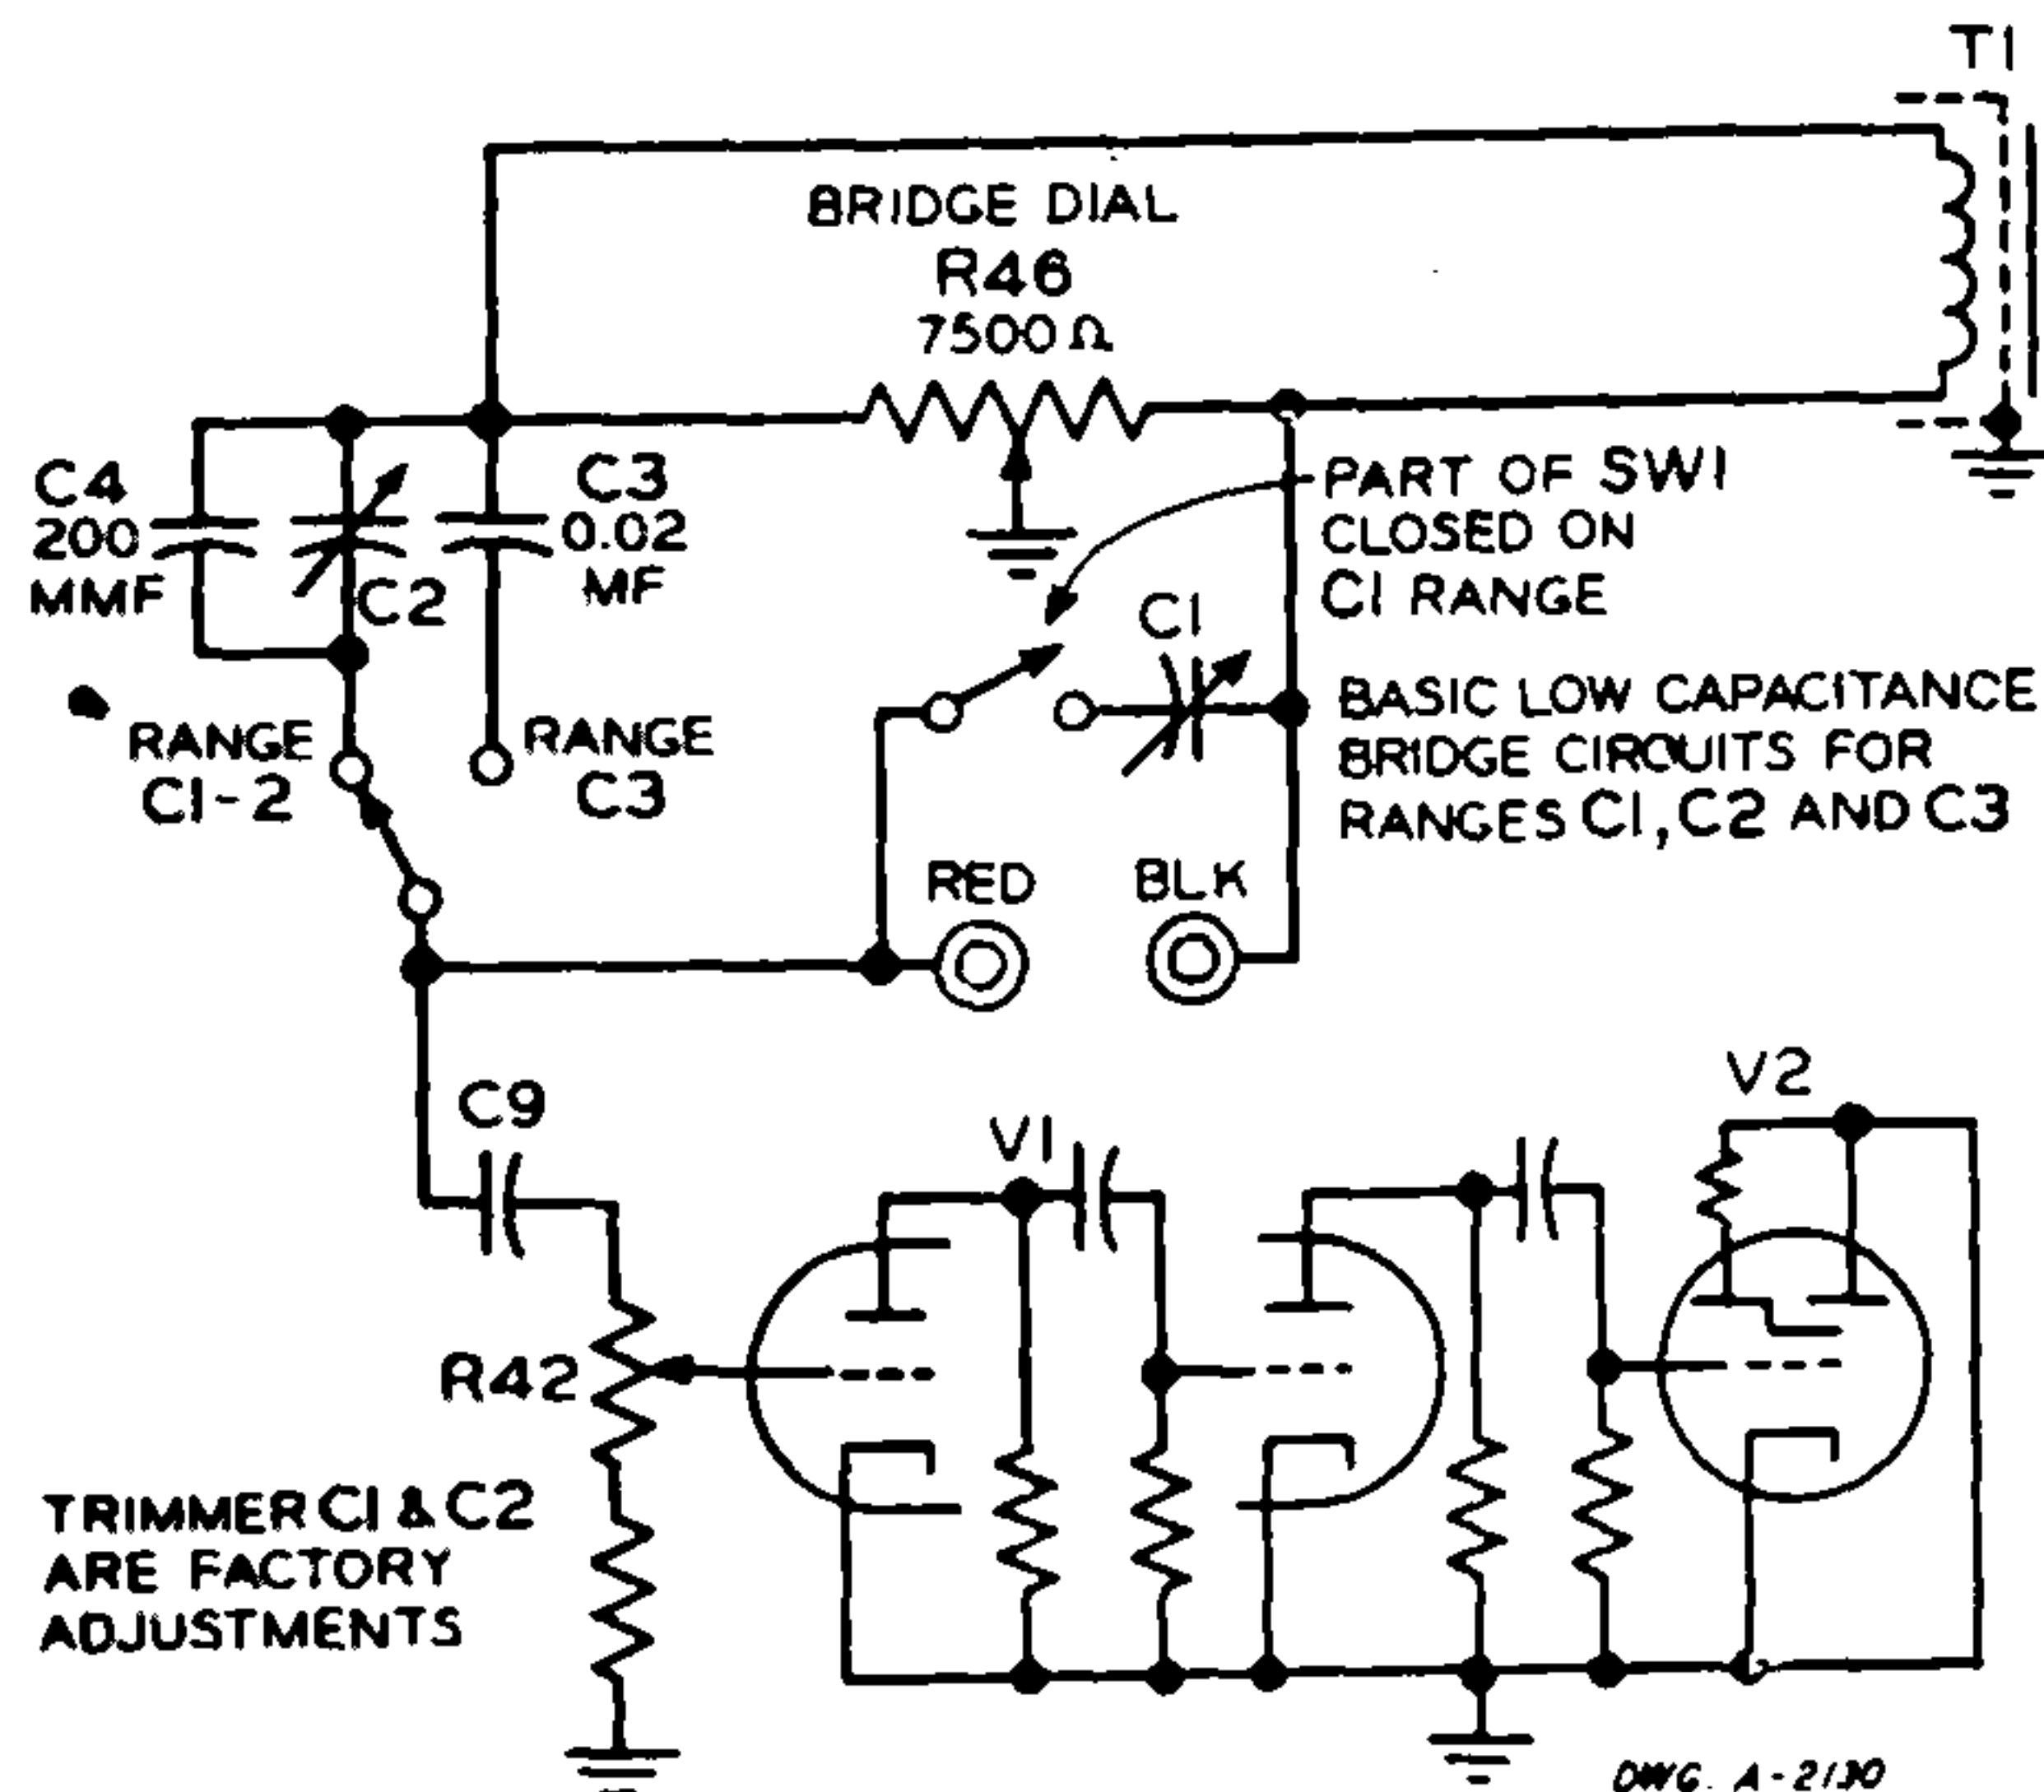
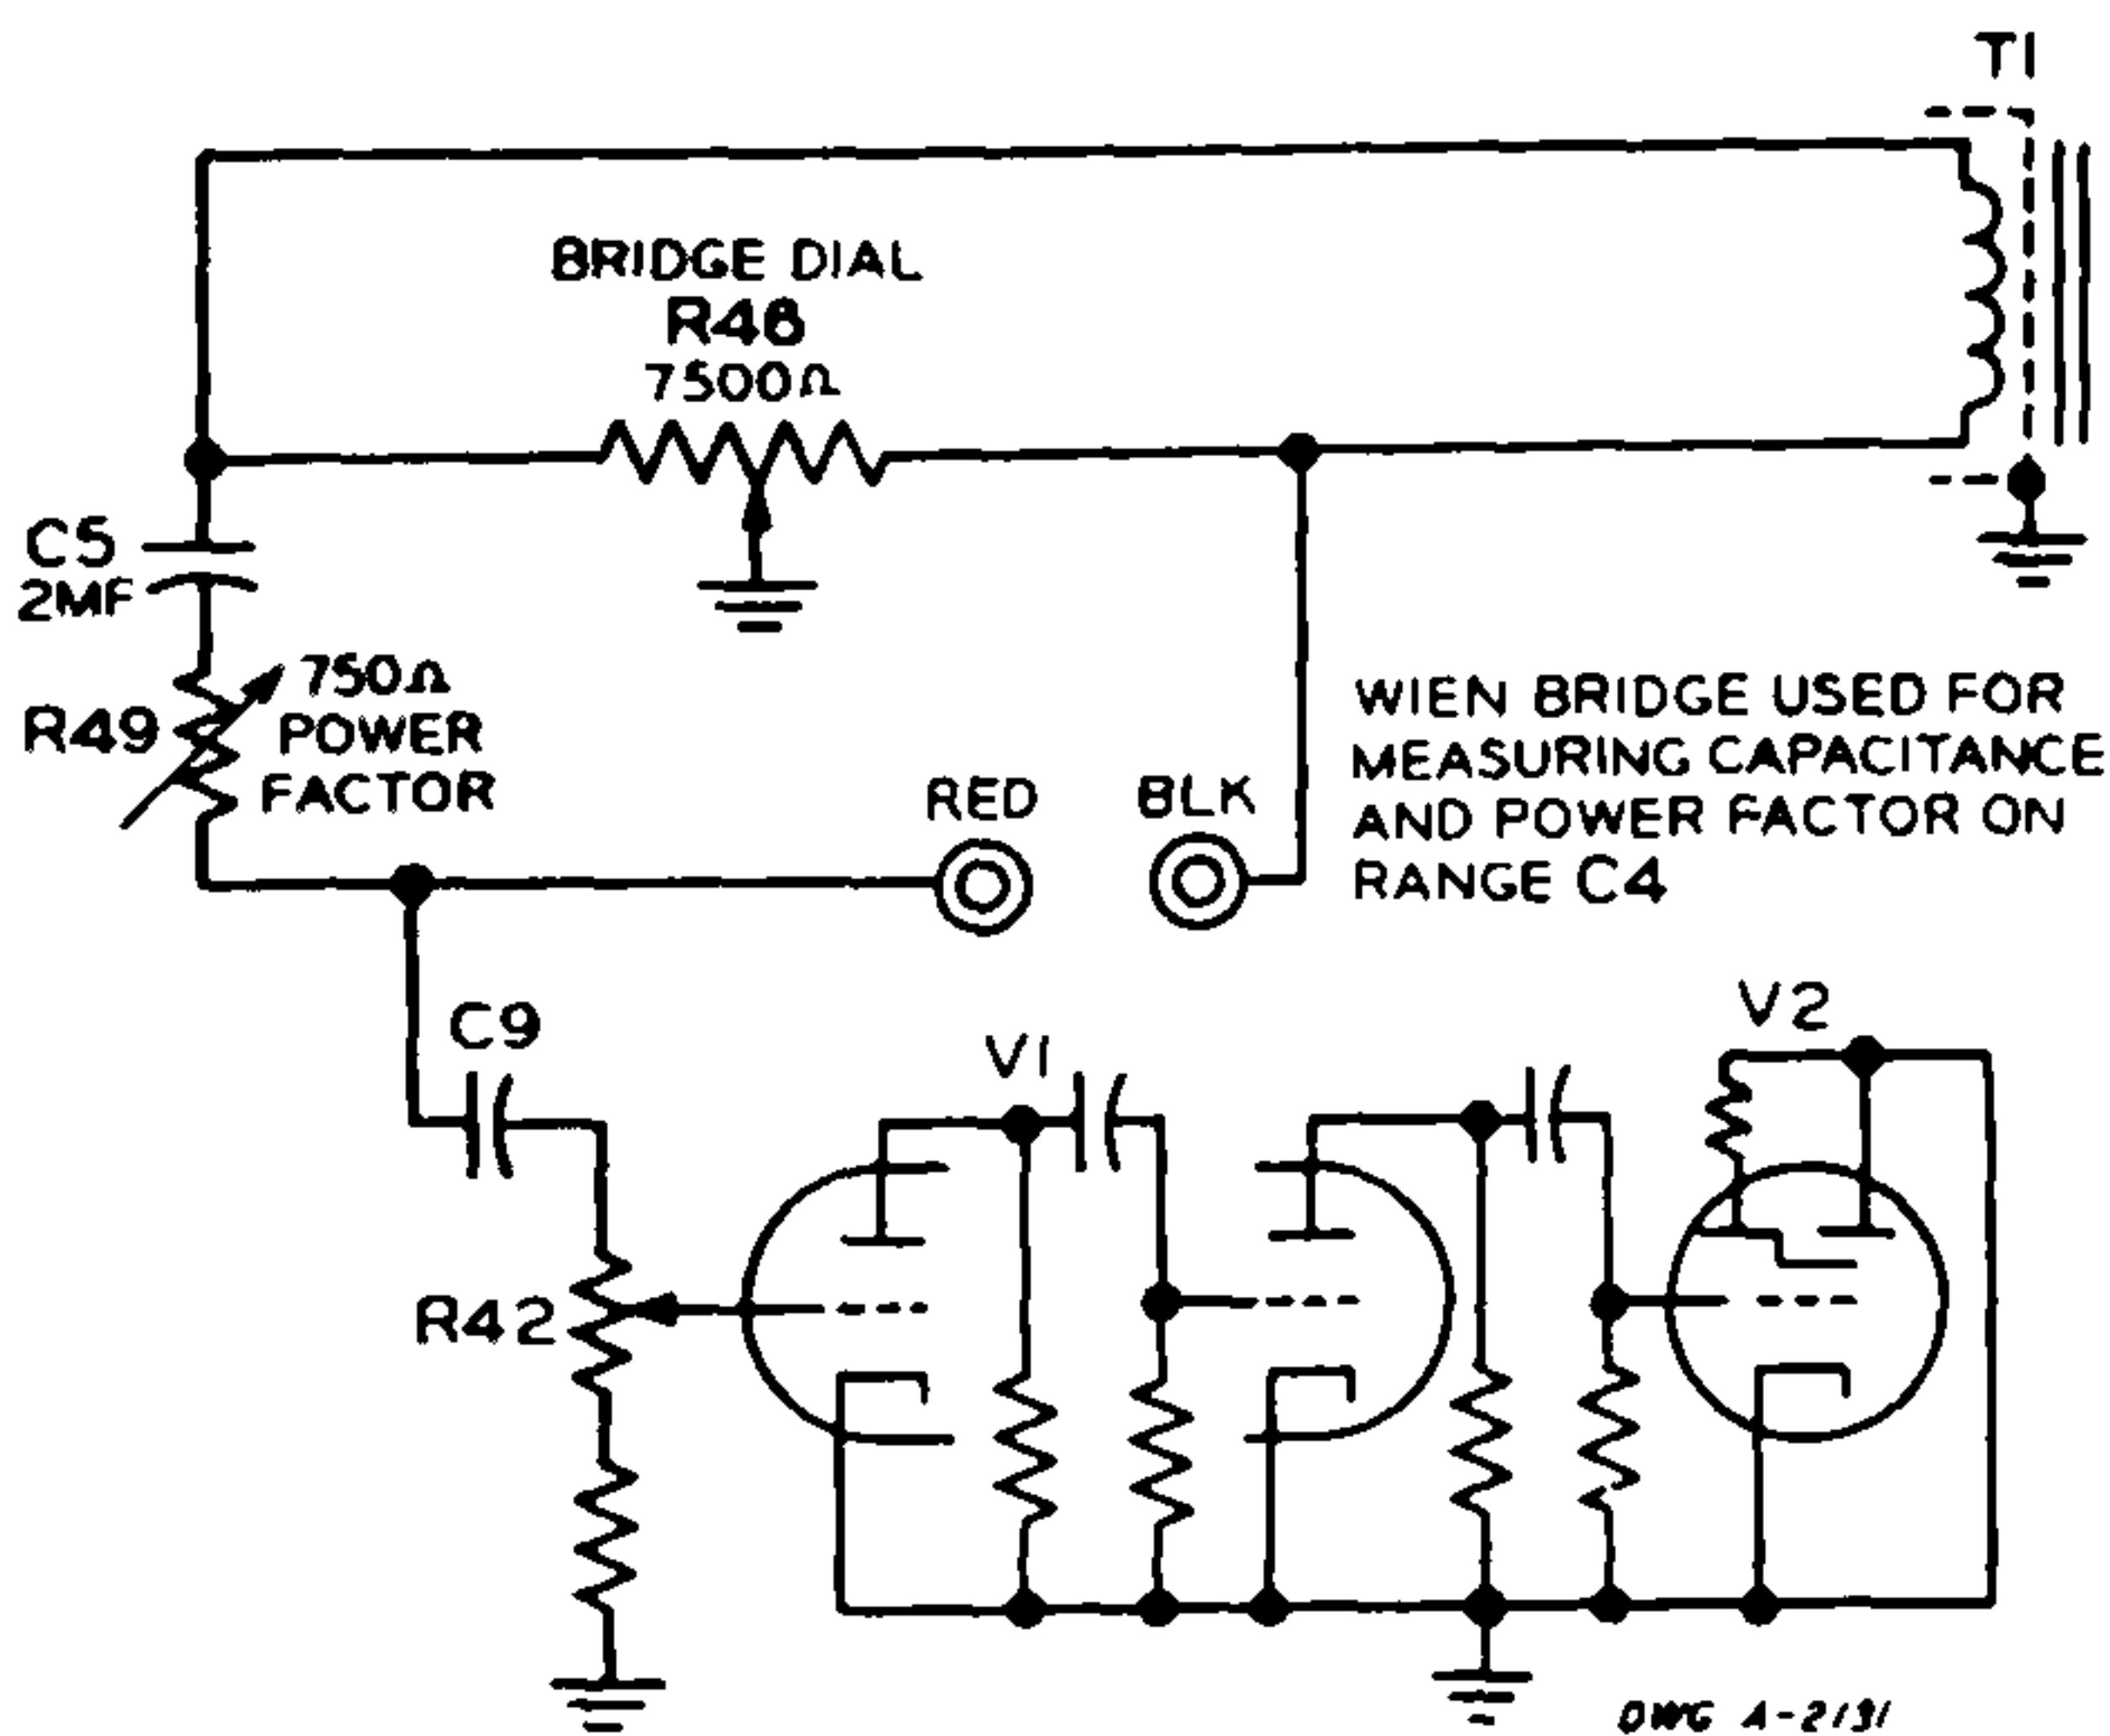
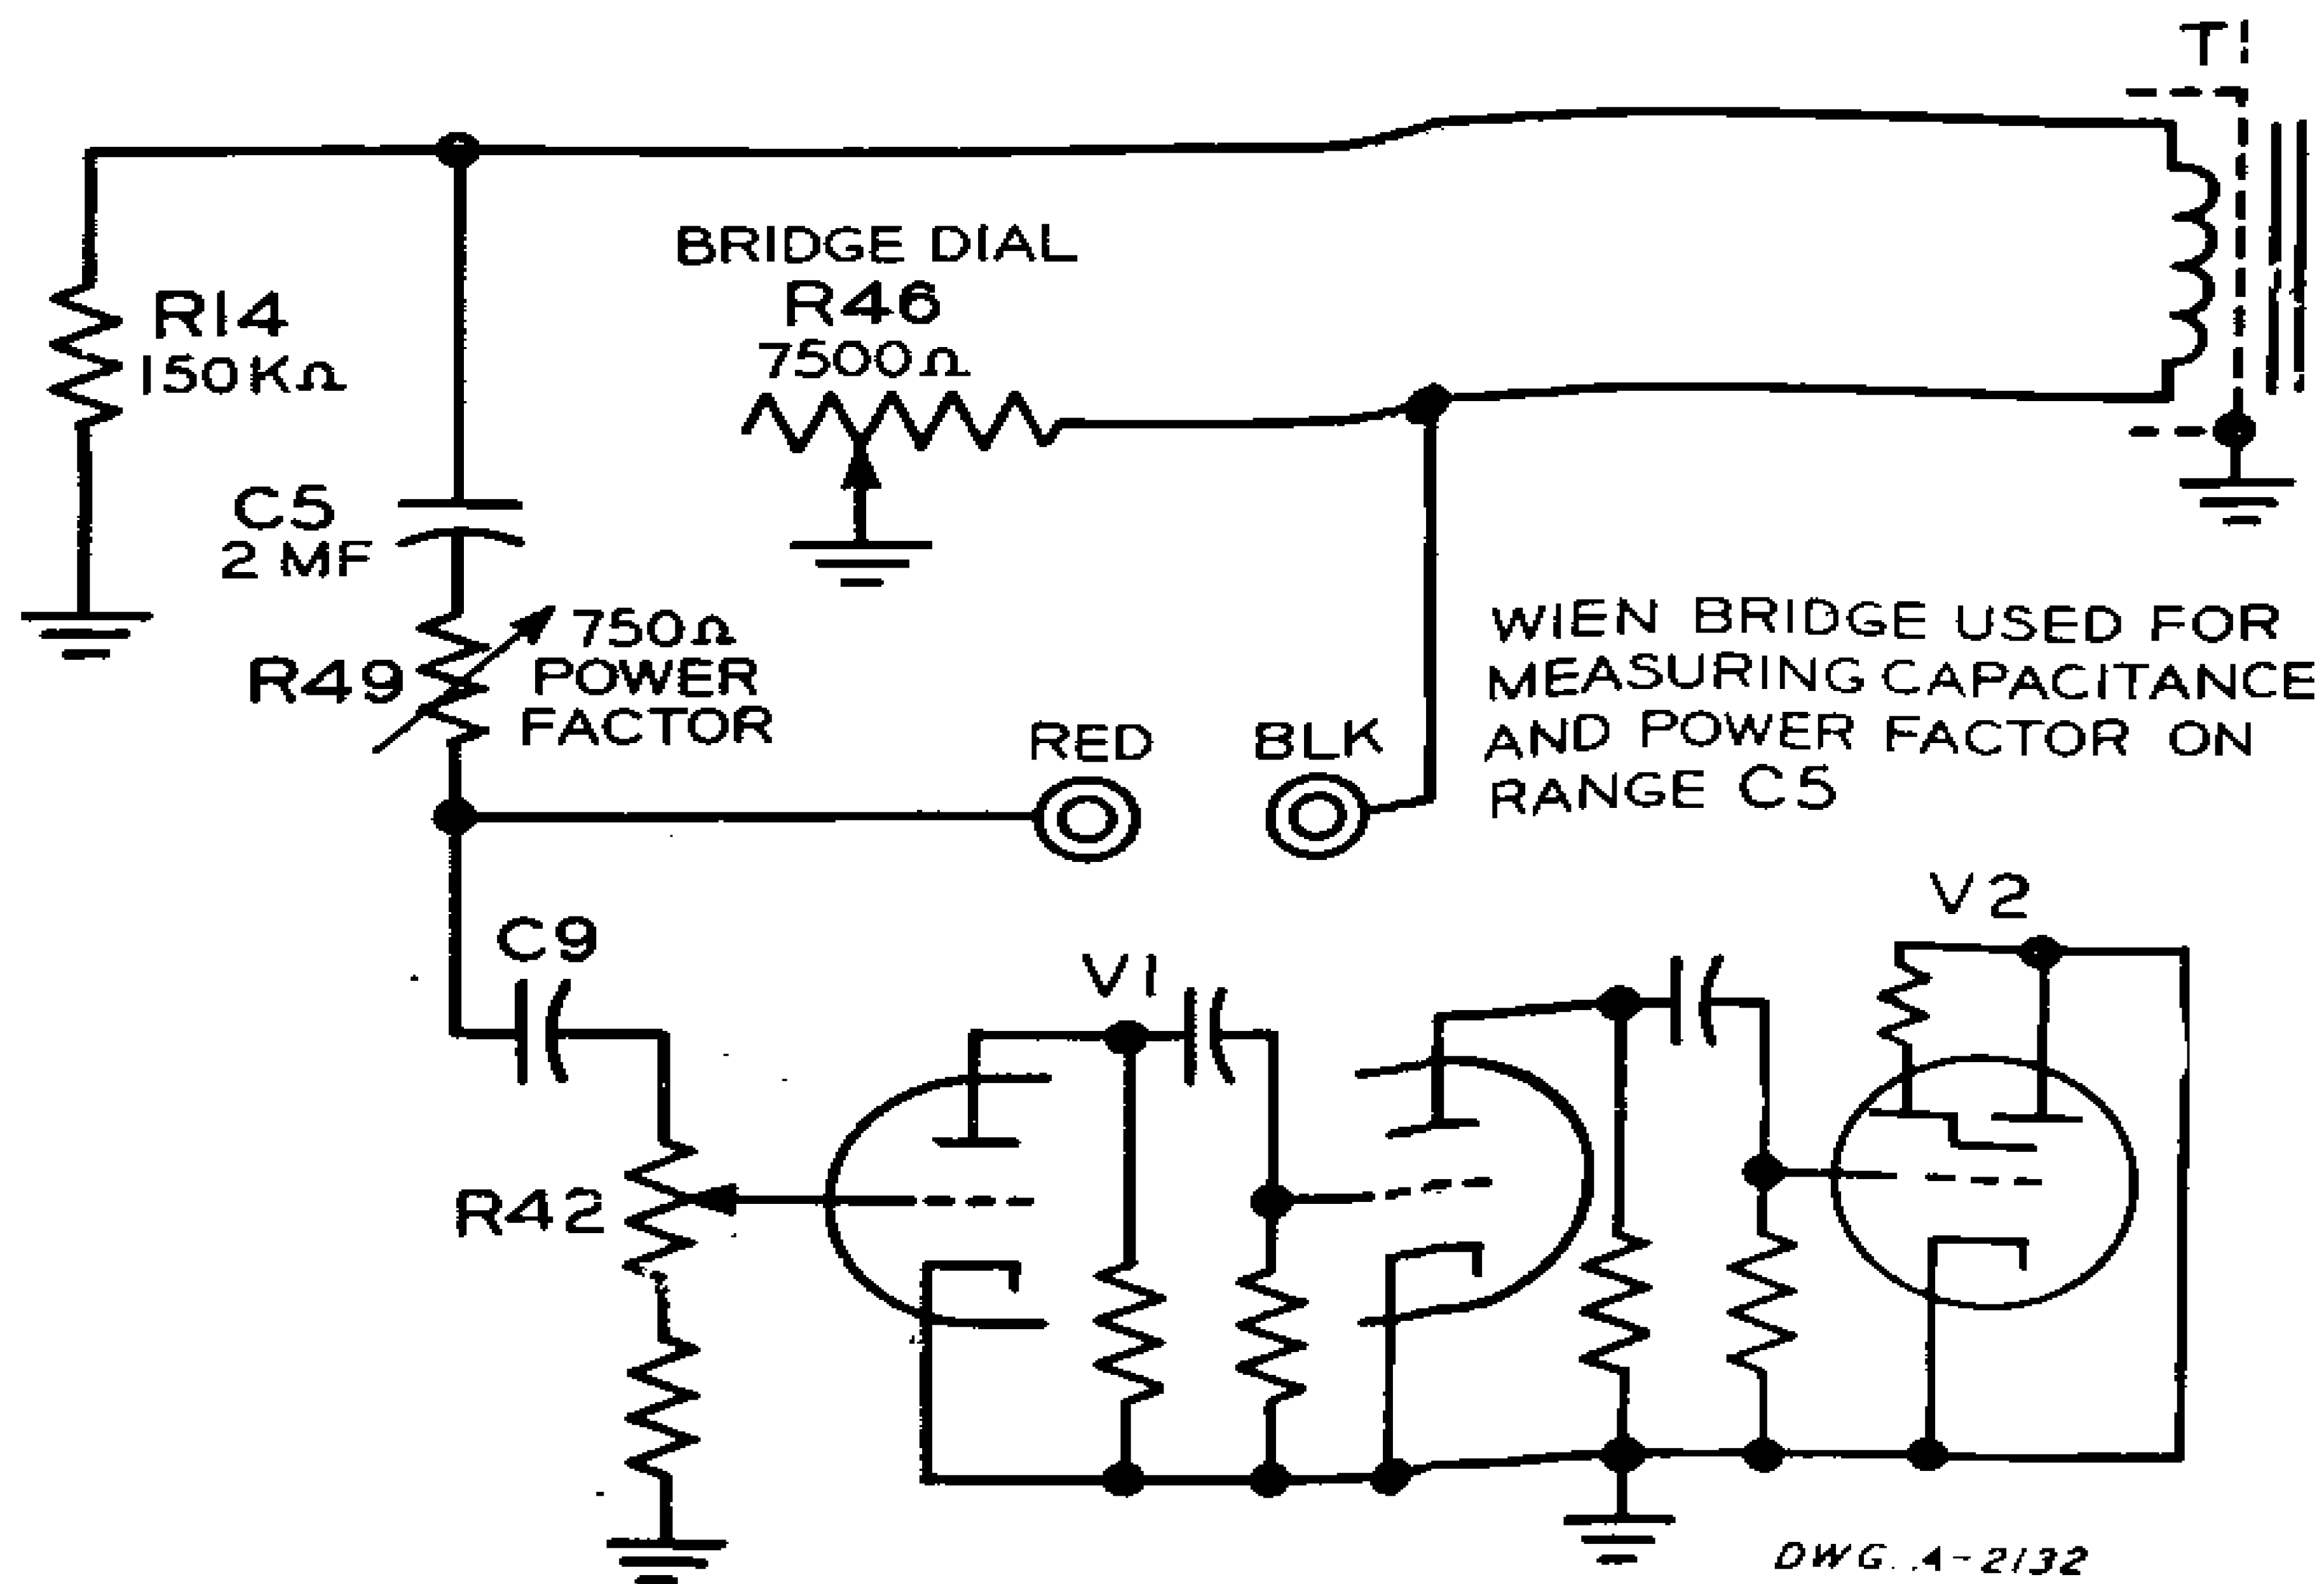

FIGURE 1
FIGURE 2
FIGURE 3
2.1 Measurements of capacitance from 1 mmf to 2000 mf are made on a 5-range line frequency capacitance bridge. Figure 1 shows a simplified circuit diagram of the bridge employed for the  $C_1$ ,  $C_2$  and  $C_3$  ranges. Figure 2 shows the basic circuit for the  $C_4$  range, and Figure 3 is the circuit for the  $C_5$  range. Since the bridge is balanced on all ranges by continuously varying the ratio arm, a highly accurate, linear-taper wirewound variable resistor is used for the main bridge element,  $R_{46}$ . These resistors are especially selected to assure proper accuracy of the calibrated dial. In addition, trimming resistors are provided at each end of the control (not shown on the basic circuits). The standard capacitors for the  $C_1$  and  $C_2$  ranges are stabilized silver-mica capacitors paralleled by silver-ceramic trimmers which are factory adjusted to compensate for variations in wiring capacitance. The  $C_3$  and  $C_4$  standards are matched pairs of Sprague DIFILM® molded tubular capacitors.  $R_{42}$  in the basic circuit is the sensitivity control for the amplifier which, along with the "magic-eye", tube constitutes the bridge balance indicator.